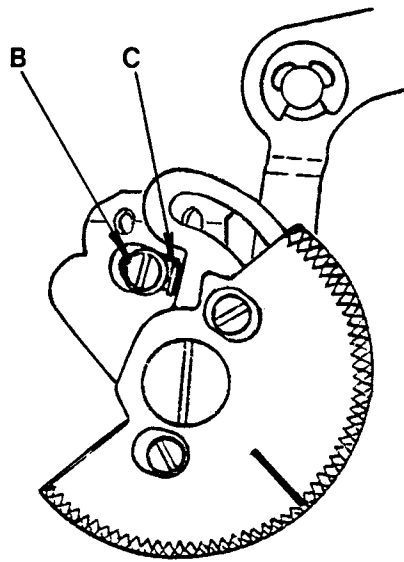

Figure 7
1. Loosen stitch width dial stopper set screw (B). (Fig. 7).
3. Set stitch width dial (A) to "5" (maximum) bight.
4. Remove arm top cover assembly taking care not to move dial (A).
5. Set stitch width dial stopper (C) so that it touches the stop portion of the stitch width dial cam (D).
6. Tighten set screw (B).